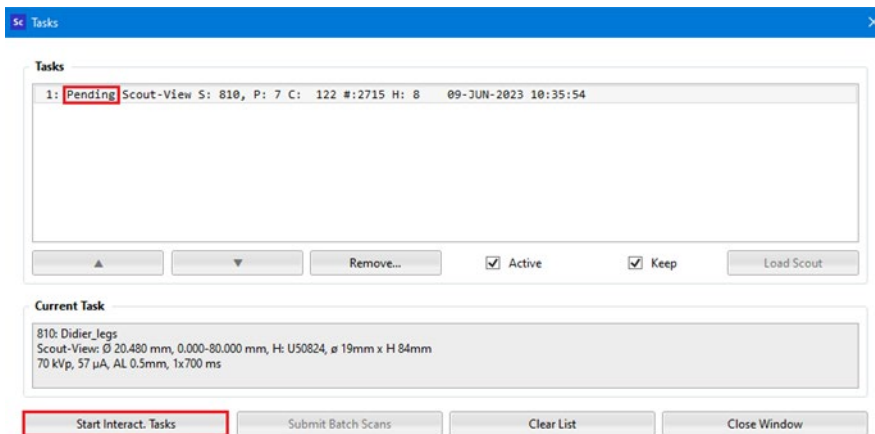

Figure 7: Screenshot of the "Tasks" window.
2. It is strongly encouraged to clear the “Tasks” list before continuing to prevent confusion later on. Clear ALL previous tasks by clicking the “Task List...” and then clicking “Clear List” (refer to Figure 7). **In some cases, after clearing tasks, your Sample Number may change. If this occurs, click “Other...” and re-enter your sample number.**
12. Once ALL tasks have a measurement reference and have been added, click “Submit Batch Scans” at the bottom of the “Tasks” window (refer to Figure 7). After about one minute, ALL of the windows will disappear. This indicates the scan is in progress and you may now temporarily leave and return when your scan is complete.